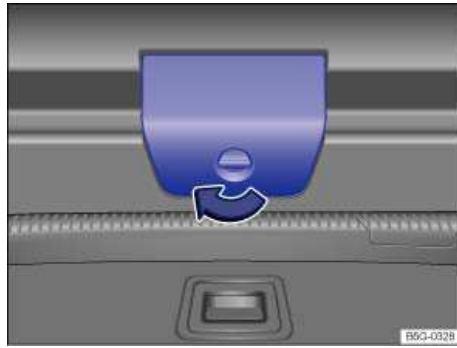

Fig. 167 Inside the luggage compartment: Cover for the rear hatch release.
- Open the cover ⇒ fig. 167 by turning the release in the direction of the arrow.